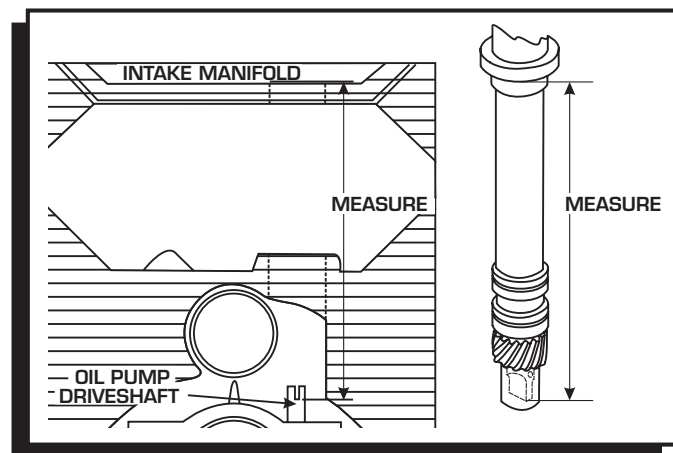

Figure 3 Measuring Oil Pump Overlap.
1. Measure the distance between the base of the slip collar to the tip of the distributor shaft (Figure 3).
2. Using a straight edge, measure the distance from the intake manifold distributor flange to the bottom groove on the oil pump shaft (Figure 3).